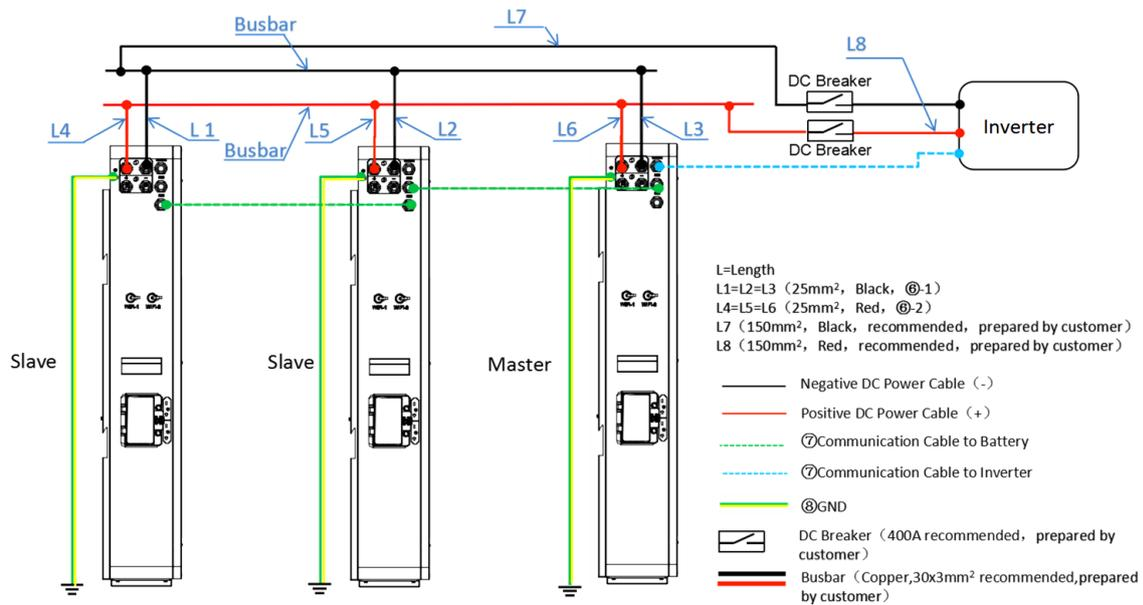

Fig.5.1.2 Multi-Sets Connection(Example: 3 Parallel,30kWh,Output Power 15kW)
2. If power cables are connected according to Fig.5.1.2, the pre-installed power cables are directly connected to the busbar.